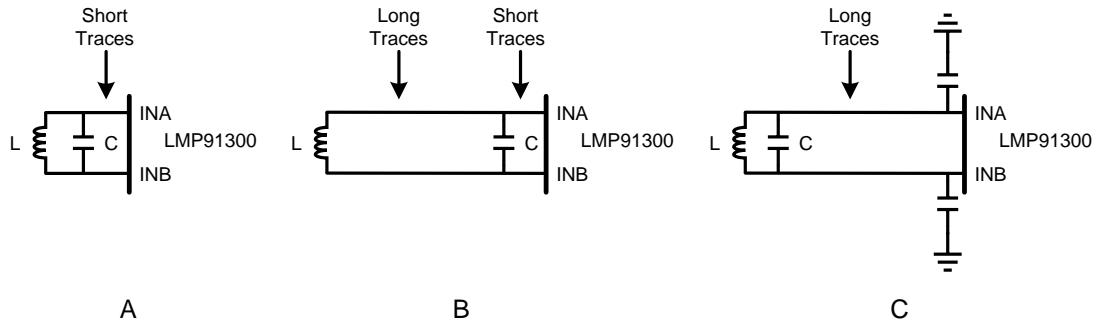

Figure 24. LC Tank Traces
There should be a ground trace between the INA and INB terminals and the rest of the terminals of the LMP91300 to decrease the coupling of the signal on the INA and INB terminals to the other terminals of the LMP91300. The trace between the LC tank and the INA and INB terminals should be as short as possible as shown in part A of Figure 24. Longer traces between the LC tank and the INA and INB terminals can cause ringing at the INA and INB terminals which can produce very noisy proximity readings. If longer traces need to be used ring split the LC tank so that the capacitor is close to the LMP91300 as shown in part B of Figure 24. If both the L and C have to be located a longer distance away from the LMP91300 small capacitors (15 to 22pF) can be connected between INA and ground and INB and ground as shown in part C of Figure 24.
- There should be a ground trace between the INA and INB terminals and the rest of the terminals of the LMP91300 to decrease the coupling of the signal on the INA and INB terminals to the other terminals of the LMP91300. The trace between the LC tank and the INA and INB terminals should be as short as possible as shown in part A of Figure 24. Longer traces between the LC tank and the INA and INB terminals can cause ringing at the INA and INB terminals which can produce very noisy proximity readings. If longer traces need to be used split the LC tank so that the capacitor is close to the LMP91300 as shown in part B of Figure 24. If both the L and C have to be located a longer distance away from the LMP91300 small capacitors (15 to 22pF) can be connected between INA and ground and INB and ground as shown in part C of Figure 24.